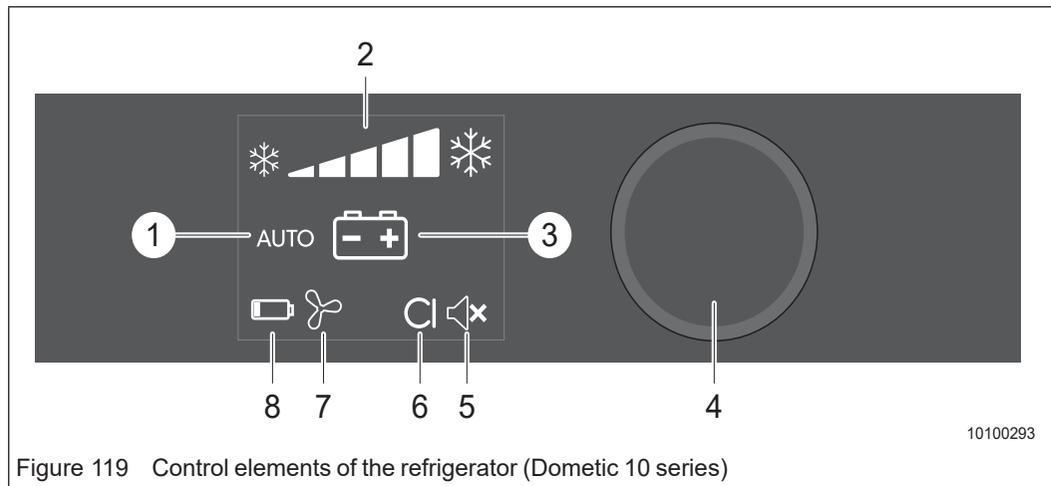

Figure 119 Control elements of the refrigerator (Dometic 10 series)
- ➔ Press and hold the control knob (Figure 119/4) for two seconds.
- ➔ Press and hold the control knob (Figure 119/4) for four seconds.
- ➔ Press the control knob (Figure 119/4) to activate the display.